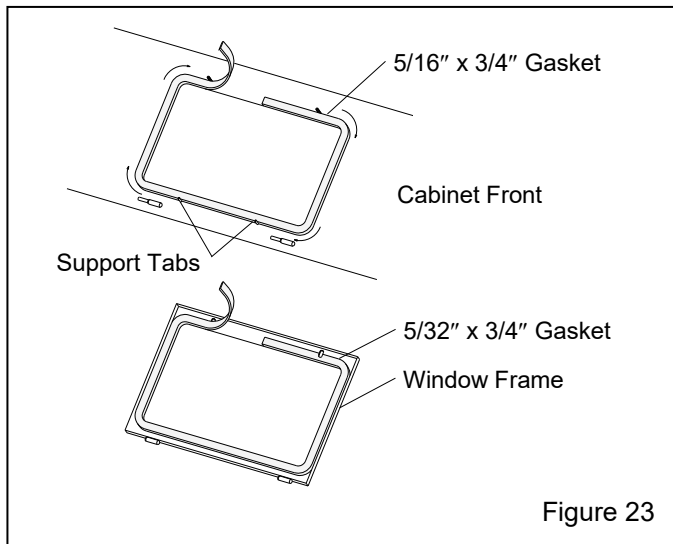

Figure 23
7.5 Window-Gasket Replacement – Figure 23
7.5.4 Peel a short section of adhesive backing from the 5/16"-thick strip gasket and adhere the gasket to the center of the top edge of the window opening, as shown in Figure 23. Peel additional backing as needed and work the strip around the radius of each corner, pressing it firmly to bond. Trim the gasket to fit and compress the ends to seal.